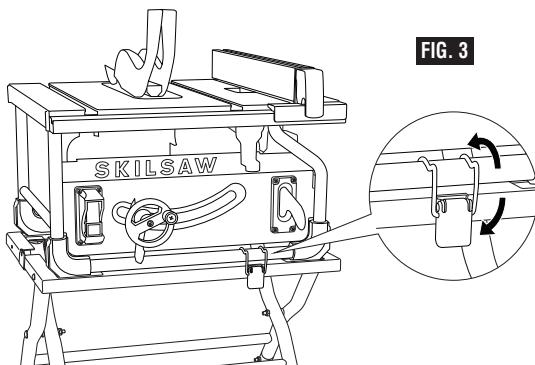

FIG. 3
3. Once base is aligned, hook the clamps on both the front and back over the base of the saw and lock in place (Fig. 3).